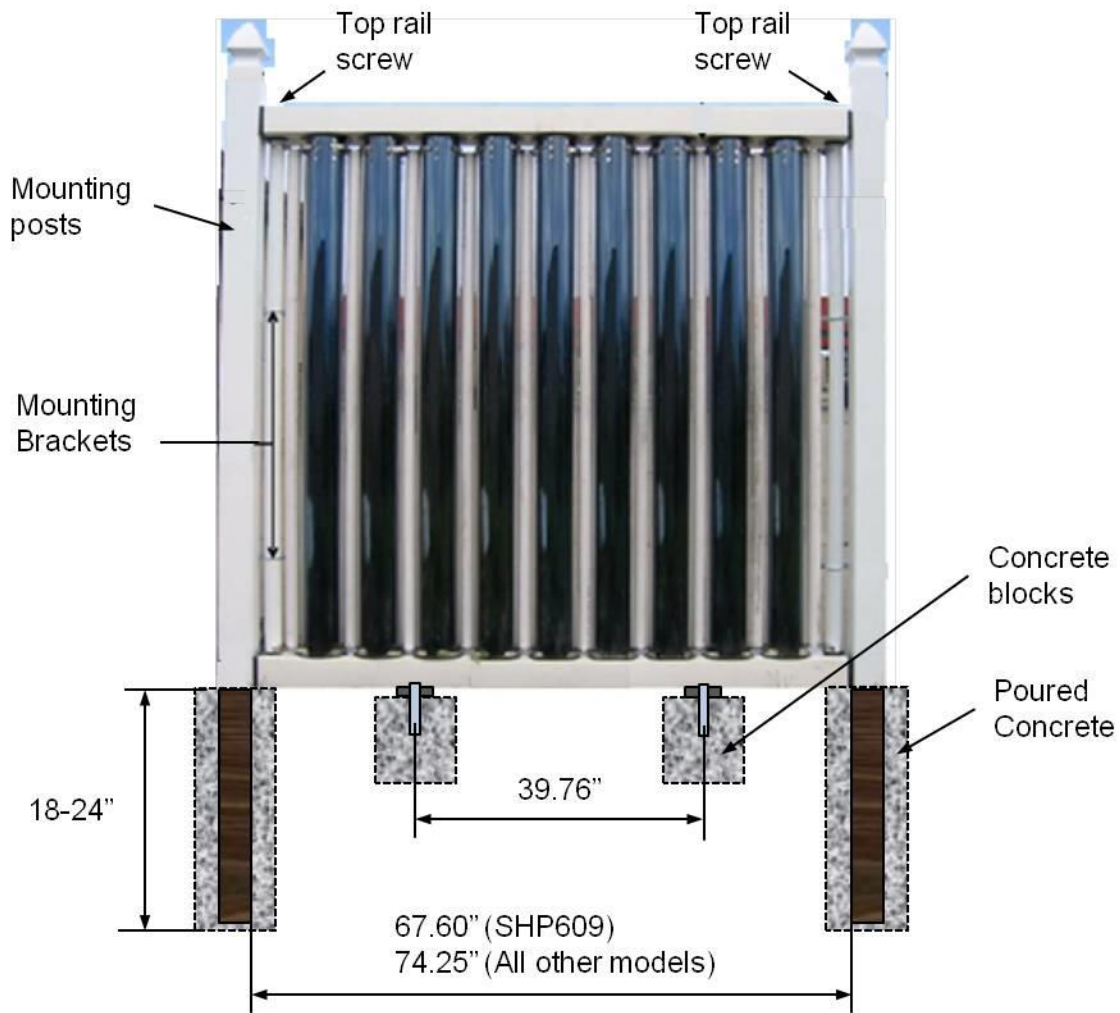

Figure 5.1: GLE Solar water heater fence showing the details for mounting with decorative 4x4 post covers.
- 5.1.4 To remove the top rail, first taking out the 2 screws in each end plate, seeing the Fig. 5.1. Then, identify the plugs on the top surface of the top railing located where the railing joins the steel support post. Remove each plug and disconnect the newly exposed bolt. Finally, remove the mounting brackets attached to the steel support post within the top railing (which holds the end caps in place).
5.2.1 **Foundation:** Refer to Fig. 5.1 for the appropriate dimensions. Identify the precise location where the collector will be installed. Using the appropriate tools, even the grade of the soil so that the collector will rest firmly and evenly on the earth.
Then, locate the two points shown 39.76" apart in Fig. 5.1. These are the center points of the precast concrete blocks that will support the collector's
5.2.2 *Mounting Posts:* Use Figure 5.1 to identify the precise location of each 4x4 mounting post. (Alternately, center the collector assembly on the concrete blocks temporarily as a visual aid to mark the mounting post locations.) Using a manual or mechanical boring tool, produce a hole for each mounting post (24" unless a greater depth is required by local or state building codes). Wrap the posts in construction felt or plastic to help extend the life of the post. This will prevent the concrete from decaying the wood at an accelerated rate. Once the post is positioned level in the post hole, pour concrete into post holes and allow it to cure.